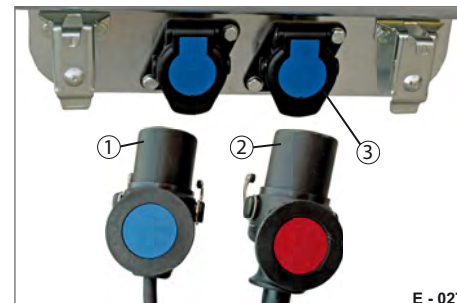

Fig. 10 Park position on tube drawbar
- ▶ Pull the plug (Fig. 9/3) from the parking socket (Fig. 10/3) - do not pull on the cable.
- ▶ Connect the electrical system plug (Fig. 10/2) to the towing vehicle.